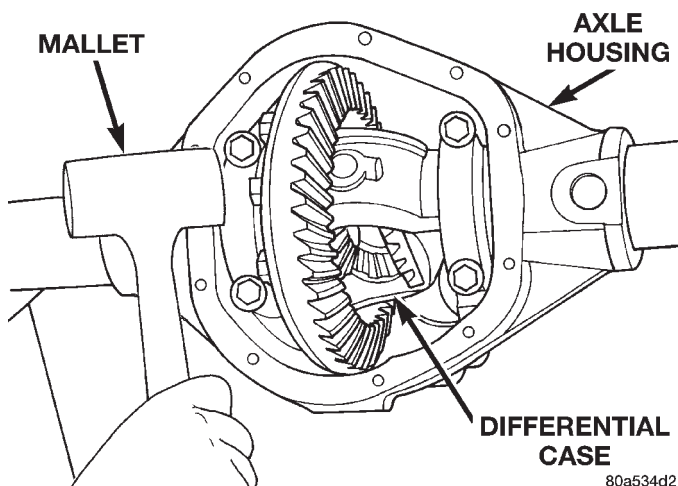
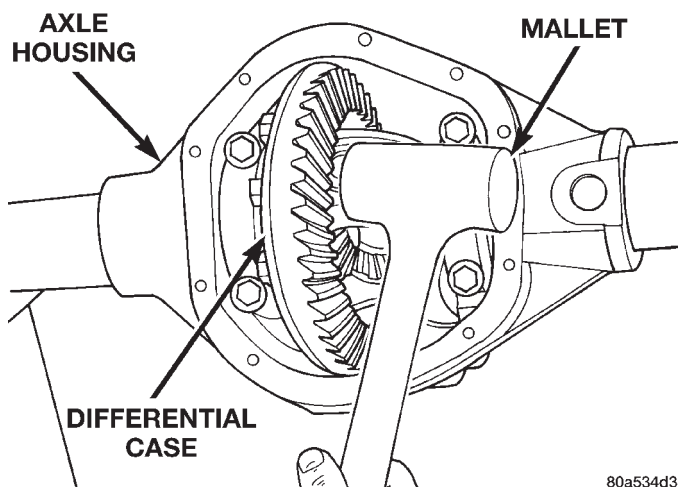
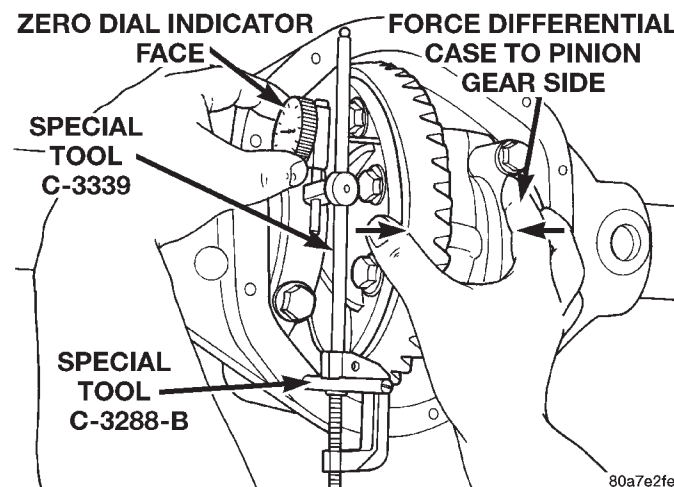

Fig. 63 Seat Pinion Gear Side Differential Dummy Side Bearing
Fig. 64 Seat Ring Gear Side Differential Dummy Side Bearing
Fig. 66 Hold Differential Case and Zero Dial Indicator
- (7) Using a dead-blow type mallet, seat the differential dummy bearings to each side of the axle housing (Fig. 63) and (Fig. 64).
(10) Push and hold differential case to pinion gear side of axle housing (Fig. 66).
(11) Zero dial indicator face to pointer (Fig. 66).
(17) Install the pinion gear in axle housing. Install the pinion yoke, or flange, and establish the correct pinion rotating torque.
(18) Install differential case and dummy bearings D-343 in axle housing (without shims), install bearing caps and tighten bolts snug.
(19) Seat ring gear side dummy bearing (Fig. 64).
(20) Position the dial indicator plunger on a flat surface between the ring gear bolt heads.
(21) Push and hold differential case toward pinion gear (Fig. 66).